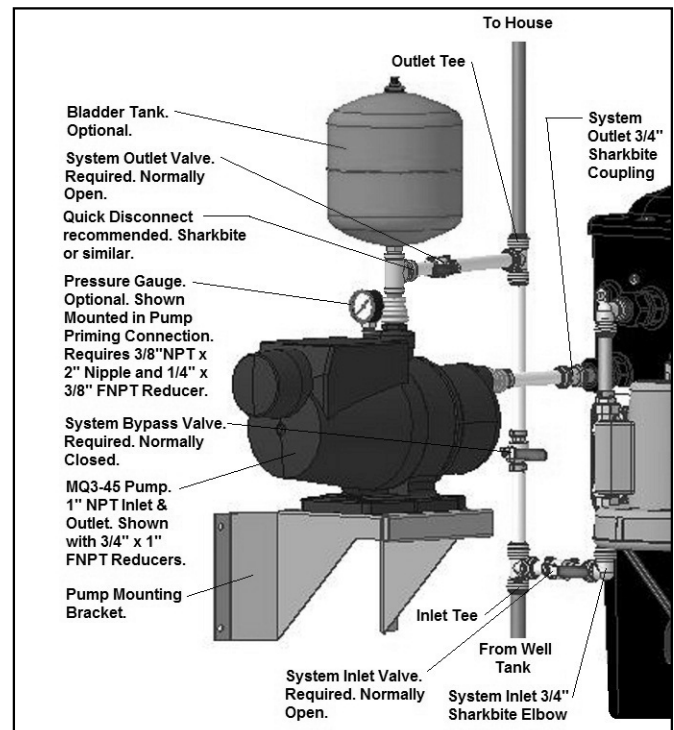

Figure 2
2. Install the Suction Check Valve provided with the Grundfos MQ3 Pump into the pump inlet as shown in the pump installation instructions. This will prevent loss of pump prime and possible interruptions in the water supply to the house. Remove the priming plug from the pump and add the specified volume (See Pump Installation Instructions) of water to the pump. Either re-install the priming plug or install a 3/8" NPT x 2" long pipe nipple and attach a 1/4" NPT Pressure Gauge with with 1/4" x 3/8" FNPT Reducer to the pipe nipple (Fig. 2).
5. Install pipe/tube from System inlet (Fig. 2) to the desired location of the supply from the well tank. At the supply end a tee is required to accommodate supply from the well and the system bypass connection. The system inlet is provided with a $\frac{3}{4}$ " Sharkbite Elbow suitable for $\frac{3}{4}$ " Nominal Copper Tube or Pex Tube, insertion length into Sharkbite Fitting is 1". A System Inlet Valve (normally open ball valve) is required between the tee and Sharkbite Elbow.
5. Plumb the water line to the house into the Outlet Tee (Fig. 2, 4 or 5 depending on System and Pump). A flow restrictor or gate valve in the water line to the house is required for balancing the system flow. A Bladder Tank, minimum capacity 5 gallons is required for 433-S50 Systems (20gal. min. for 433-S50X).